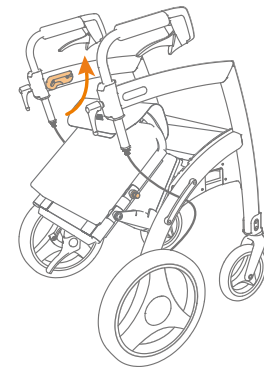

Figure 34: Pull the wheelchair backrest further up.
- c. Pull the backrest further up and then back (**Figure 34**) so that the locking bolts click into the upper guide rails on the frame (**Figure 35**). If the upper locking pins do not slide smoothly into the upper guide rails on the frame, push the wheelchair backrest forward until halfway up the frame and try again.